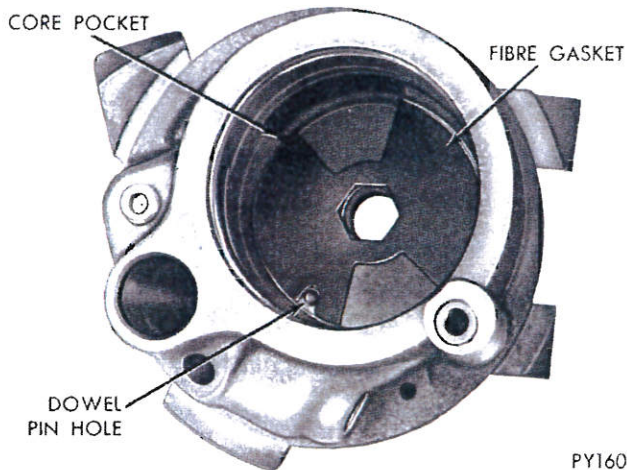

Fig. 26—Fibre Gasket Installed
- (4) Lubricate new large pump body to reservoir "O" ring and install on pump body.
(5) Install new fibre gasket and brass seal plate to bottom of housing floor (fibre gasket on floor and brass seal plate on top of fibre). Note: **Pumps originally built with brass seal plate only, must be serviced with both brass seal plate and fibre gasket. Align index notches in plate and gasket with dowel pin hole in housing; cut-out sections of gasket and plate should be in line with core pockets on side of housing bore (Fig. 26).**